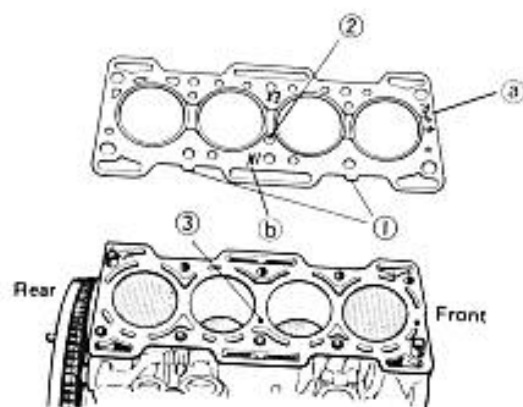

Fig. 3-123
The positioning of cylinder head gasket on the cylinder block demands attention to this requirement: Tongue parts ① come on inlet manifold side, with hole ② falling in perfect register with hole ③. See Fig. 3-123. Be sure, too, that locating pins ④ are in place.